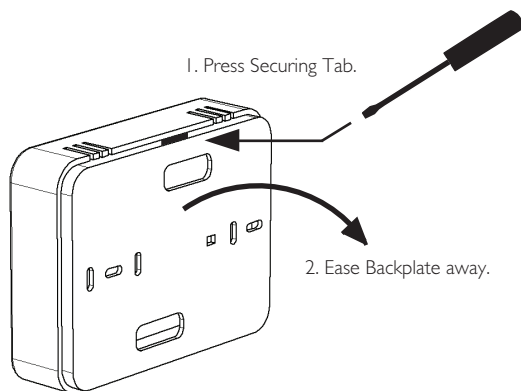

Fig. 10. Receiver & Access Tab
3. Remove the Receiver backplate by carefully prising it away from the body. Fig. 10.